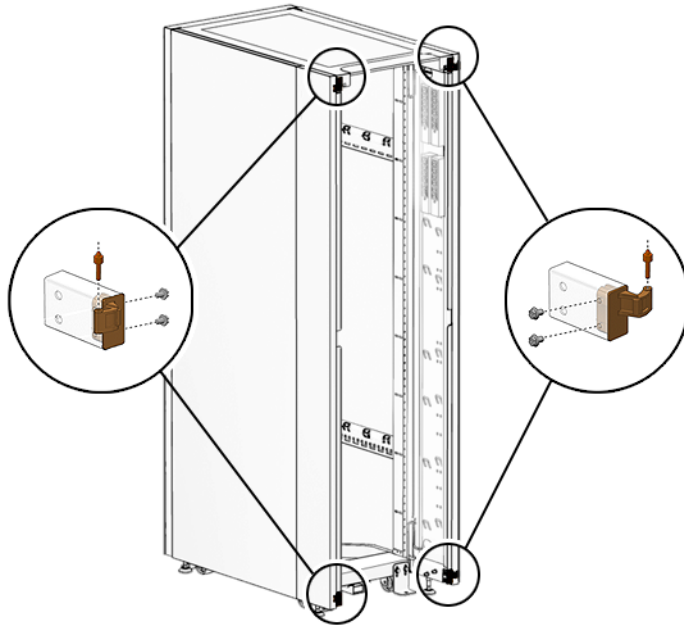

FIGURE 4-5 Attaching the Gold Hinges to the Sun Rack
6. Install the gold hinges onto the Sun Rack where the black hinges and latches were mounted (FIGURE 4-5).